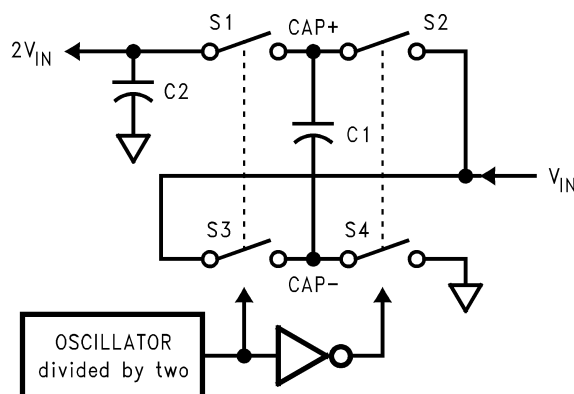

Figure 14. Voltage Doubler Principle
The doubler contains four large CMOS switches which are switched in a sequence to double the input supply voltage. Figure 14 illustrates the voltage conversion scheme. When S2 and S4 are closed, C1 charges to the supply voltage V_{IN} . During this time interval, switches S1 and S3 are open. In the next time interval, S2 and S4 are opened at the same time, S1 and S3 are closed, the sum of the input voltage V_{IN} and the voltage across C1 gives the $2V_{IN}$ and the voltage across C2 gives the $2V_{IN}$ at V_{DBL} output. V_{DBL} supplies the LDO regulator. It is recommended not to load V_{DBL} when V_{O5} has a load of 50mA. For proper operation, the sum of V_{DBL} and V_{O5} loads must not be more than 50mA.
- R_{SW} is the sum of the ON resistance of the internal MOSFET switches as shown in Figure 14